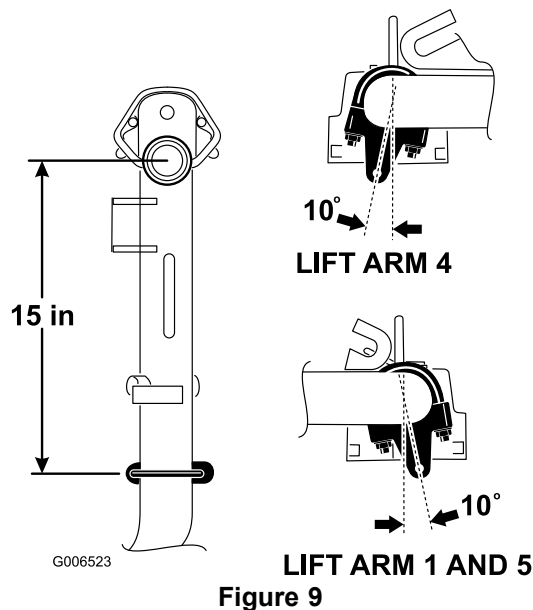

Figure 9
- On lift arms #1, #4 and #5, position the chain brackets and U-bolts 381 mm (15 inches) behind the center line of the pivot knuckle (Figure 9). On lift arms #1 and #5 the brackets should be rotated to the right 10 degrees from vertical (Figure 9). On lift arm #4 the bracket should be rotated to the left 10 degrees from vertical (Figure 9).